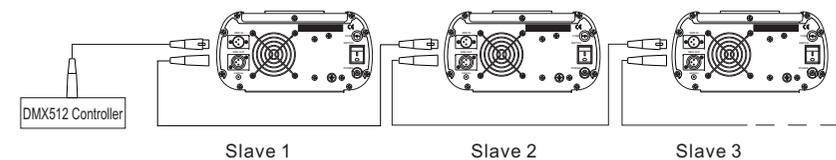

Fig. 2
- ① If you need Master/Slaves to change color synchronously, please set all of slaves into "001";
- ② If you need Master/Slaves to change color in sequence, please set slaves into "006", "011" and so on (add "5" one after another).
(3) The connection of DMX Signal Control Mode (See Fig. 2):